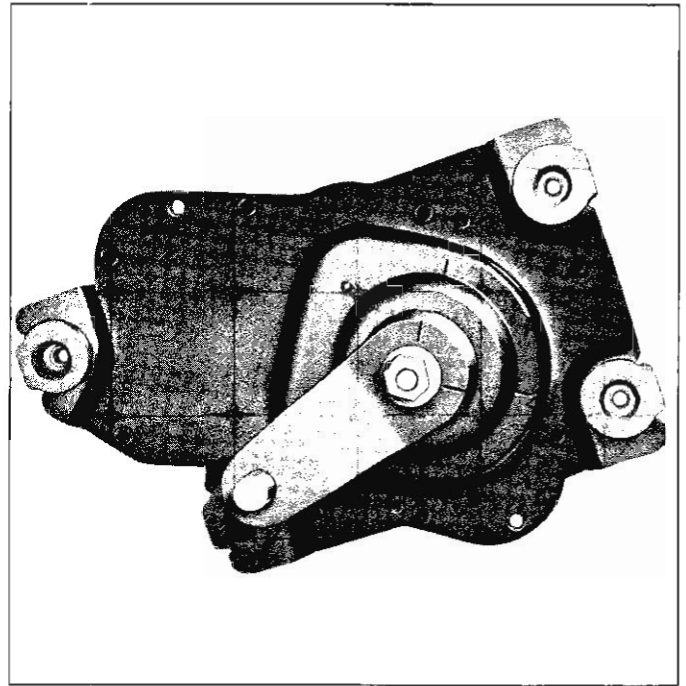

Fig. 44—Wiper Crank in Park Position
2. Place wiper in park position and install crank arm on output shaft, rotate crank so alignment marks line up with those on cover (fig. 44). Replace retaining nut, place crank arm in vise, tighten retaining nut.